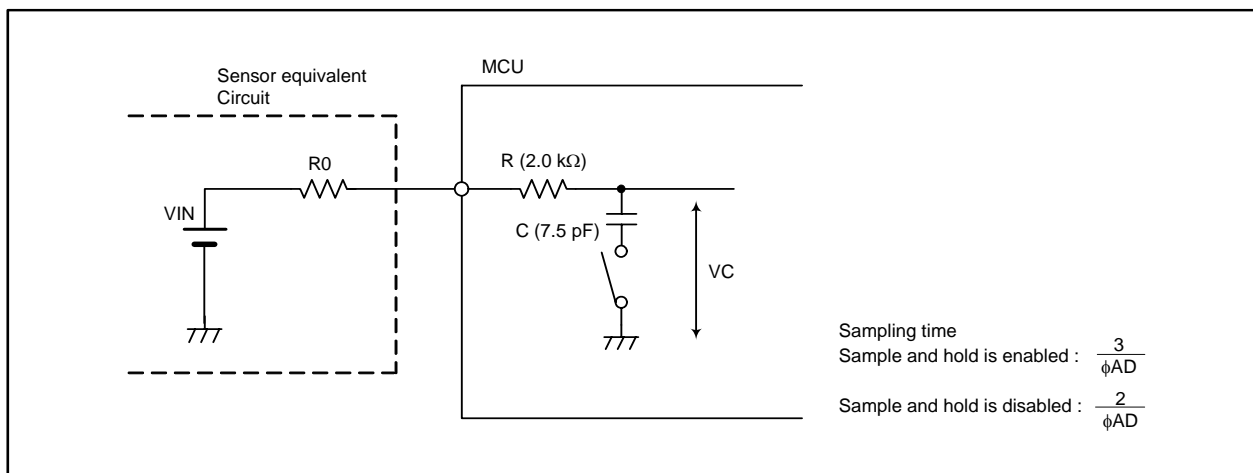

Figure 18.9 Analog Input Pin and External Sensor Equivalent Circuit
- (1) Set the CM07 bit in the CM0 register to 0 (clock selected by the CM21 bit divided by the MCD register).
- (2) Set the MCD register to 12h (no division).
To take full advantage of the A/D converter performance, Internal capacitor (C) charge shown in Figure 18.9 must be completed within the specified period (T) as sampling time. Output impedance of the sensor equivalent circuit (R0) is determined by the following equation:
Figure 18.9 shows a connection example of analog input pin and external sensor equivalent circuit.